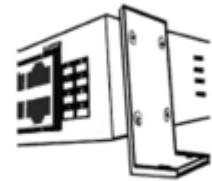

Figure 1. Rack-mount bracket position
- 1) Position the device so that the front panel is facing down and apply the rack-mount brackets with bracket screws to each side as shown in Figure 1. Rack-mount bracket position.